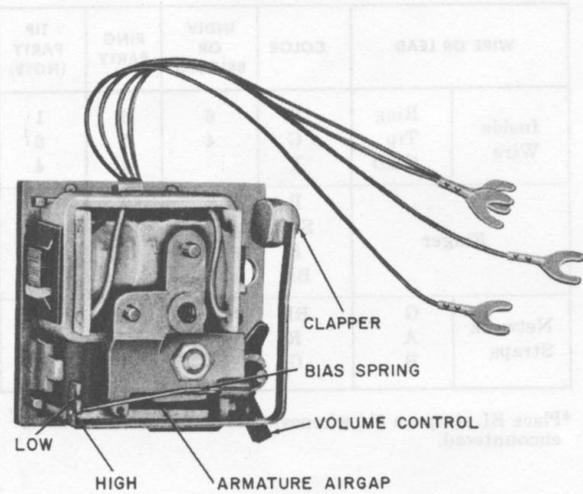

Fig. 1—G1-Type Ringer, Cover Removed
2.01 The G1-type ringer (Fig. 1 and 2) is a high-impedance ringing bridge designed for internal use in telephone sets only.
- (3) Bias spring which is visible through the adjustment slot can be repositioned from the high-tension slot to the low-tension slot (Fig. 1) by using long-nosed pliers.
- (4) Position gong with the aid of the positioning bosses and retighten gong mounting screw securely.